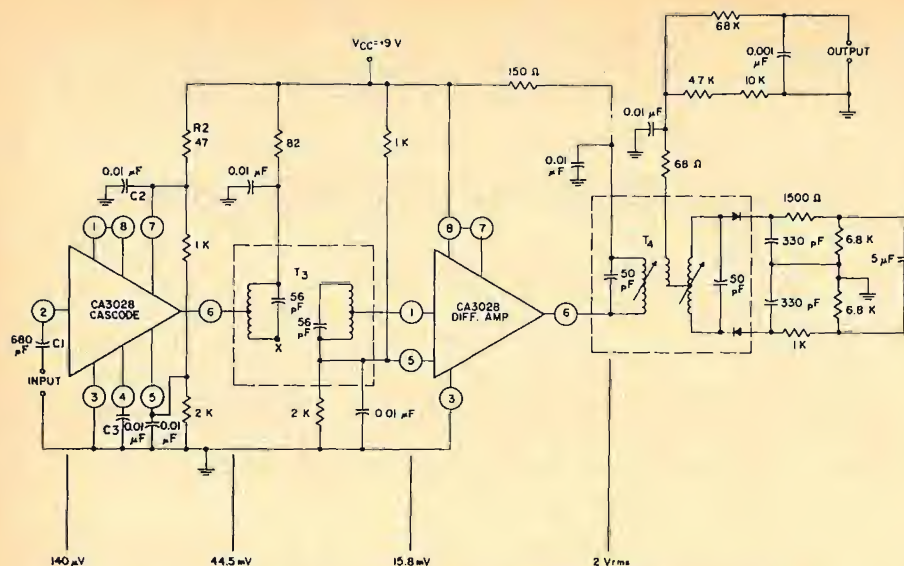
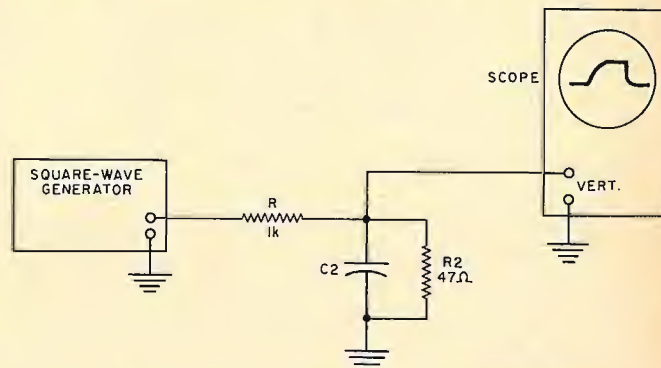

Fig. 1. A typical 10.7-MHz i.f. strip employing a pair of integrated circuits.
Fig. 6. Test-equipment setup to check capacitor C2 in Fig. 1.
Fig. 1. (A) An unbiased tape is inherently non-linear. (B) When a.c. bias is added in various amounts to the d.c. (signal), the curves are as shown. In this case, the d.c. remains while the a.c. decreases. (C) Same as (B) except that both d.c. and a.c. decrease, simulating actual tape recorder. (D) Output rises with increasing bias to a peak then falls off. (E) Output vs bias current at a number of frequencies using unequalized (flux-sensitive) system, showing the shift required in the bias for maximum high-frequency sensitivity.
Fig. 1 shows two IC's in a 10.7-MHz i.f. strip, a typical application in an FM tuner or, with a frequency change, in a TV i.f. section. It would be very difficult, if not impossible, to troubleshoot this circuit without removing components. Yet we will demonstrate that all parts can be tested without unsoldering any connections, without damaging the IC's, and with reasonable speed. The basic philosophy in any IC troubleshooting technique is to assume that the IC's are good and check all external components first.
Returning to the problem of troubleshooting the i.f. circuit of Fig. 1, we use the test arrangement of Fig. 6 with $R = 1000$ ohms. The risetime is measured as $22 \mu s$ and the value of C_2 is therefore $0.01 \mu F$. The peak amplitude of the waveform in his case would be approximately 50 mV for a one-volt peak input. This is the result of the approximate 1:20 ratio between R_2 and R . Figs. 3A and 3B show actual scope traces for this test. Fig. 3A is the applied square wave and Fig. 3B is the voltage across C_2 .